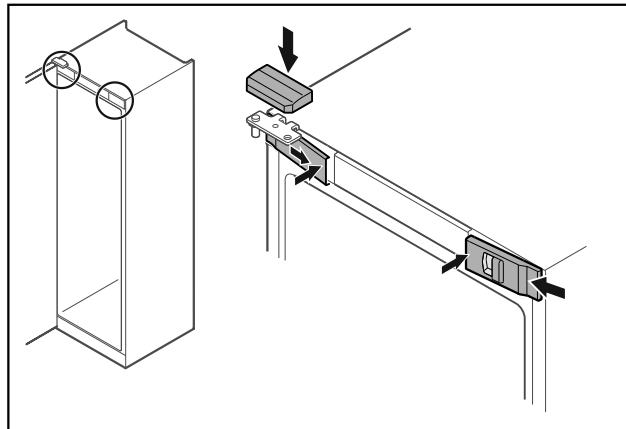

Fig. 51
- ▶ Hook in the front covers Fig. 51 (1) on the side and snap them into place on the inside.
- ▶ Snap on the top cover Fig. 51 (2) from above.